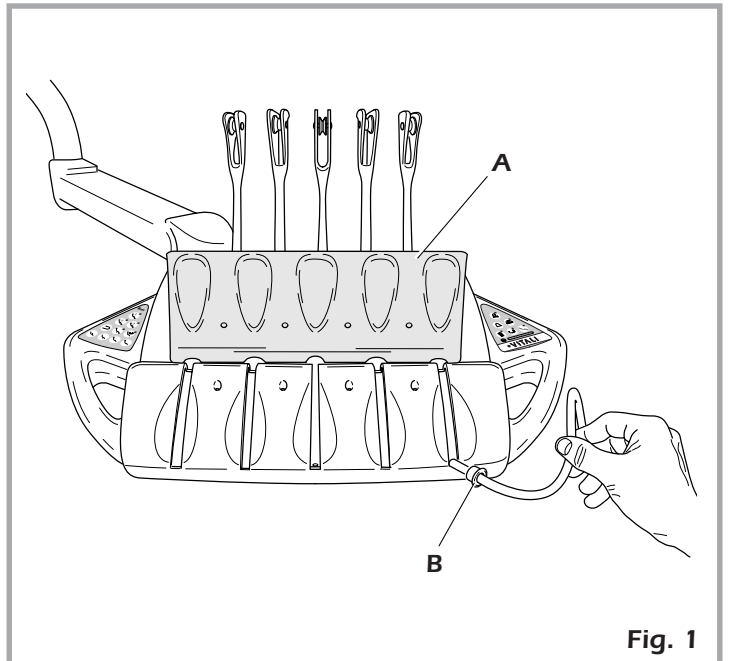

Fig. 1
- 3) Move the instrument cords outward, as shown in the fig. 1